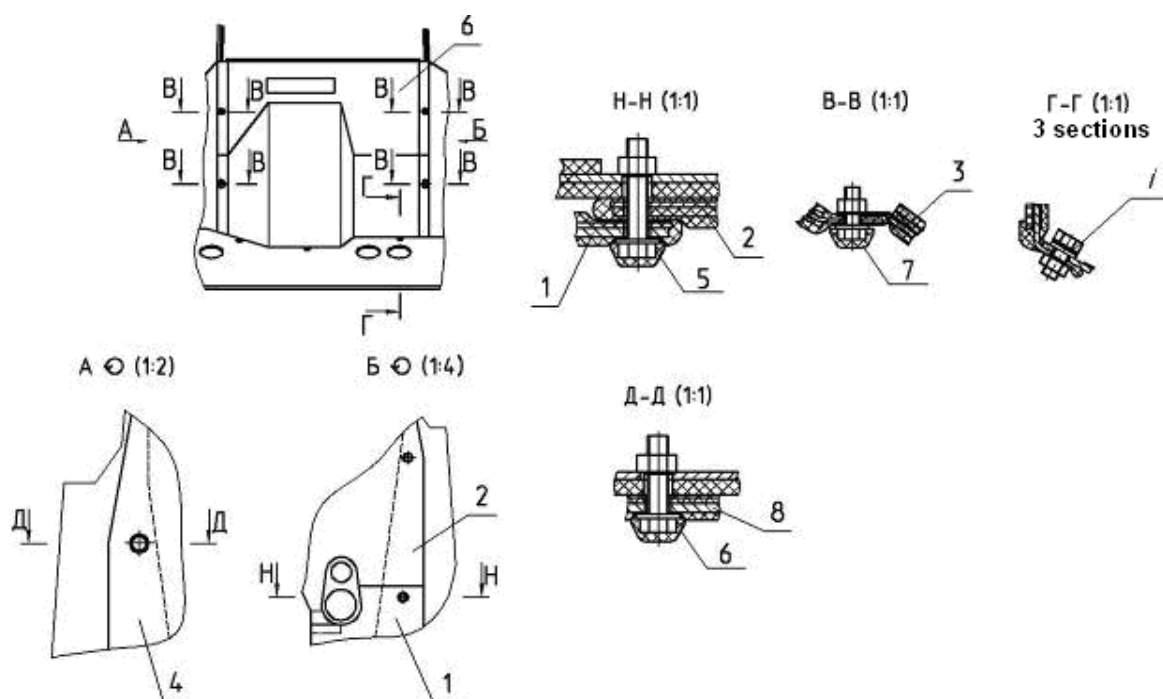

Figure 8.9
- a) 1) unscrew bolt (6) (figure 8.9)) (section D-D), (7) (section B-B), remove left-side panel (4) 80-6700320;
- b) unscrew bolts (5) (section H-H), (7) (section B-B), remove right-side lower panel (1) 85-6700330,
- c) remove right-side higher panel (2) 85-6700340;
- d) unscrew bolts (7) (section G-G) remove panel (3) 80-6700300.